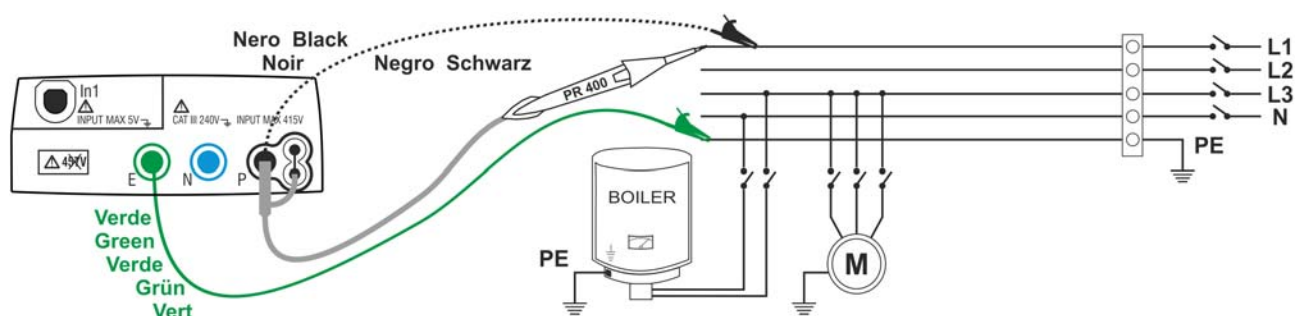
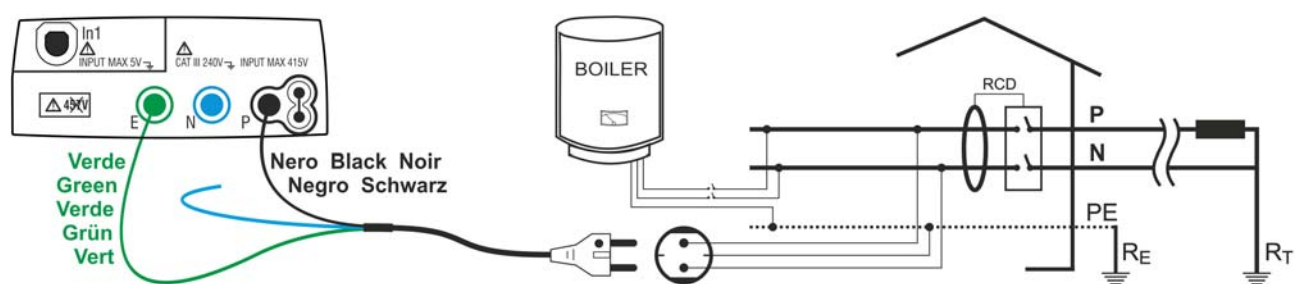

Fig. 8: Instrument connection by means of single cables and remote probe
Fig. 9: Instrument connection through shuko cable
6. Connect the test leads to the ends of the conductors to be tested as in Fig. 8 and Fig. 9.